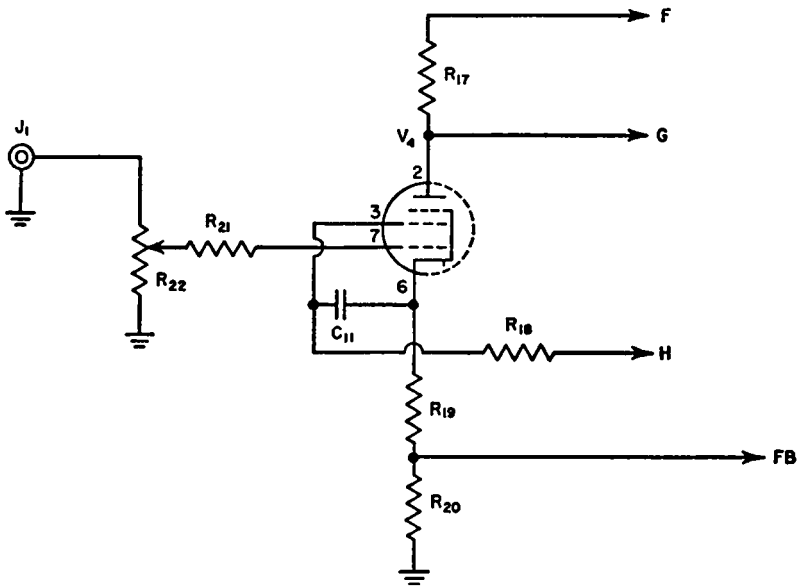

Fig. 7-10. Voltage amplifier.
**Voltage amplifier.** (See Figure 7-10) If R22 has been placed close to J1 and if both these components are close to the tube socket all input circuit wiring may be made quite short and direct.